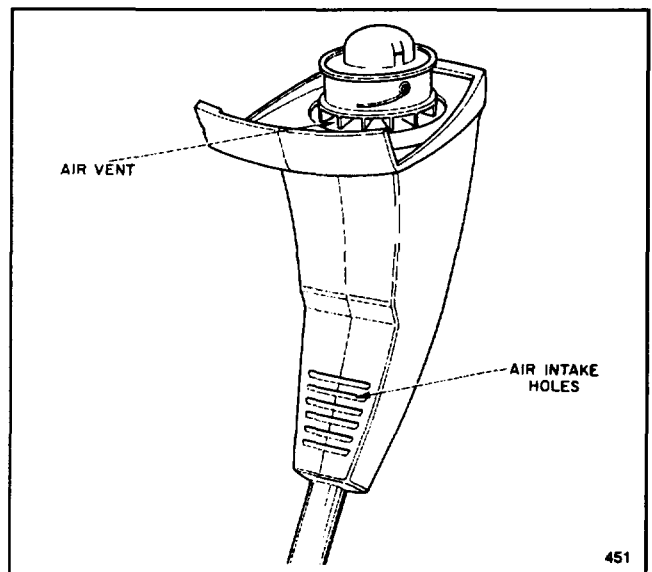

Figure 15
4. Air exhaust vent is located on underside of shield (Fig. 15). Scrape vent clean regularly.
5. Wipe debris away from air intake holes in motor housing (Fig. 15).